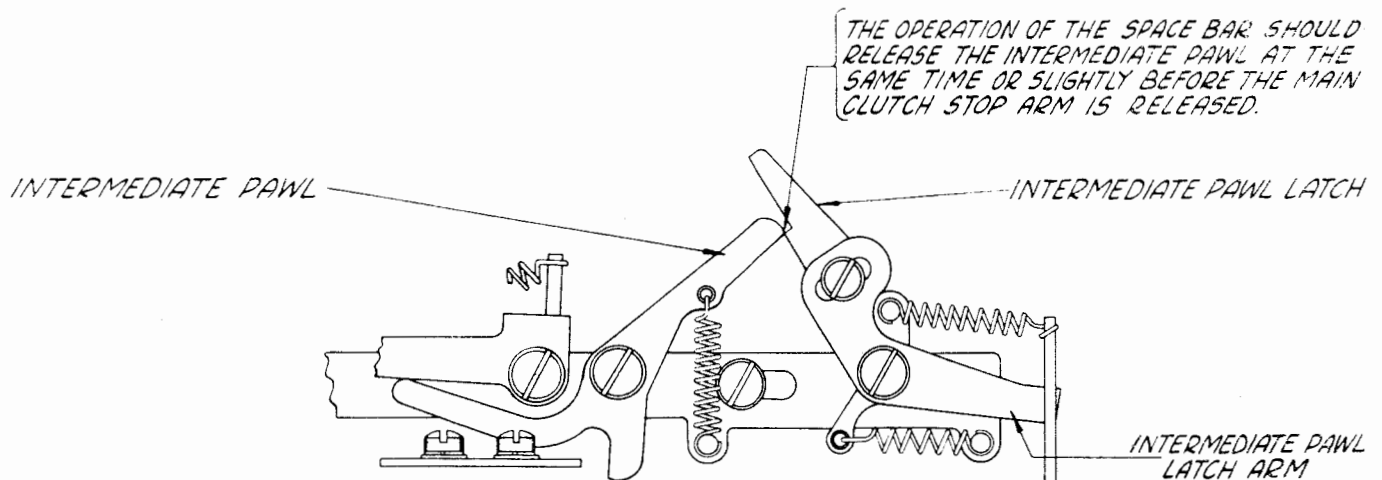

Figure 22
2.47 Intermediate-pawl Latch: With the operating camsleeve in its stop position, depress the spacebar slowly. The intermediate pawl should release at the same time or slightly before the main-clutch stop-lever is released. See Figure 22.